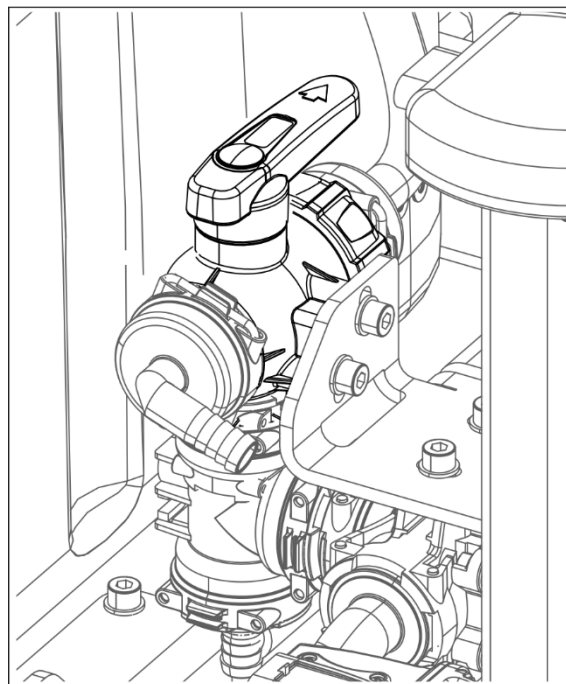

Figure30 : Three-way valve circulation
- 1.4 Switch the three-way valve to circulation, see figure 30.